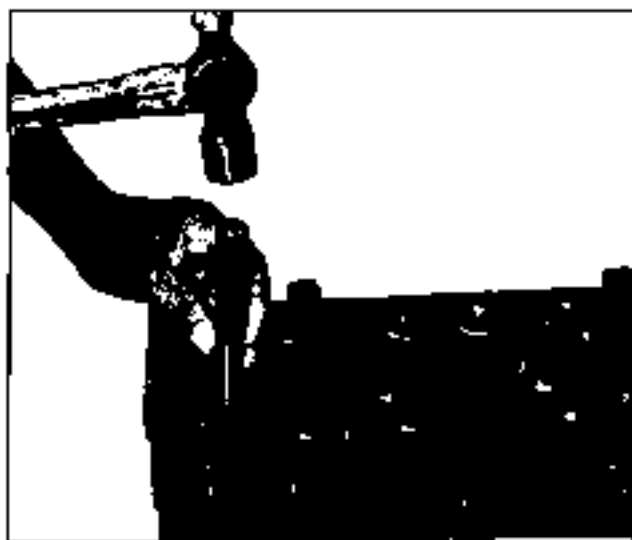

Fig. 6-89 Installing Rocker Arm Stud
Install new intake manifold gasket plastic retainers. Check rocker arm stud height with stud gage J 23342 as shown in Fig. 6-89.
12. Carefully drive stud into cylinder head until tool J 23342 has seated on machined rocker stud boss (Fig. 6-89).